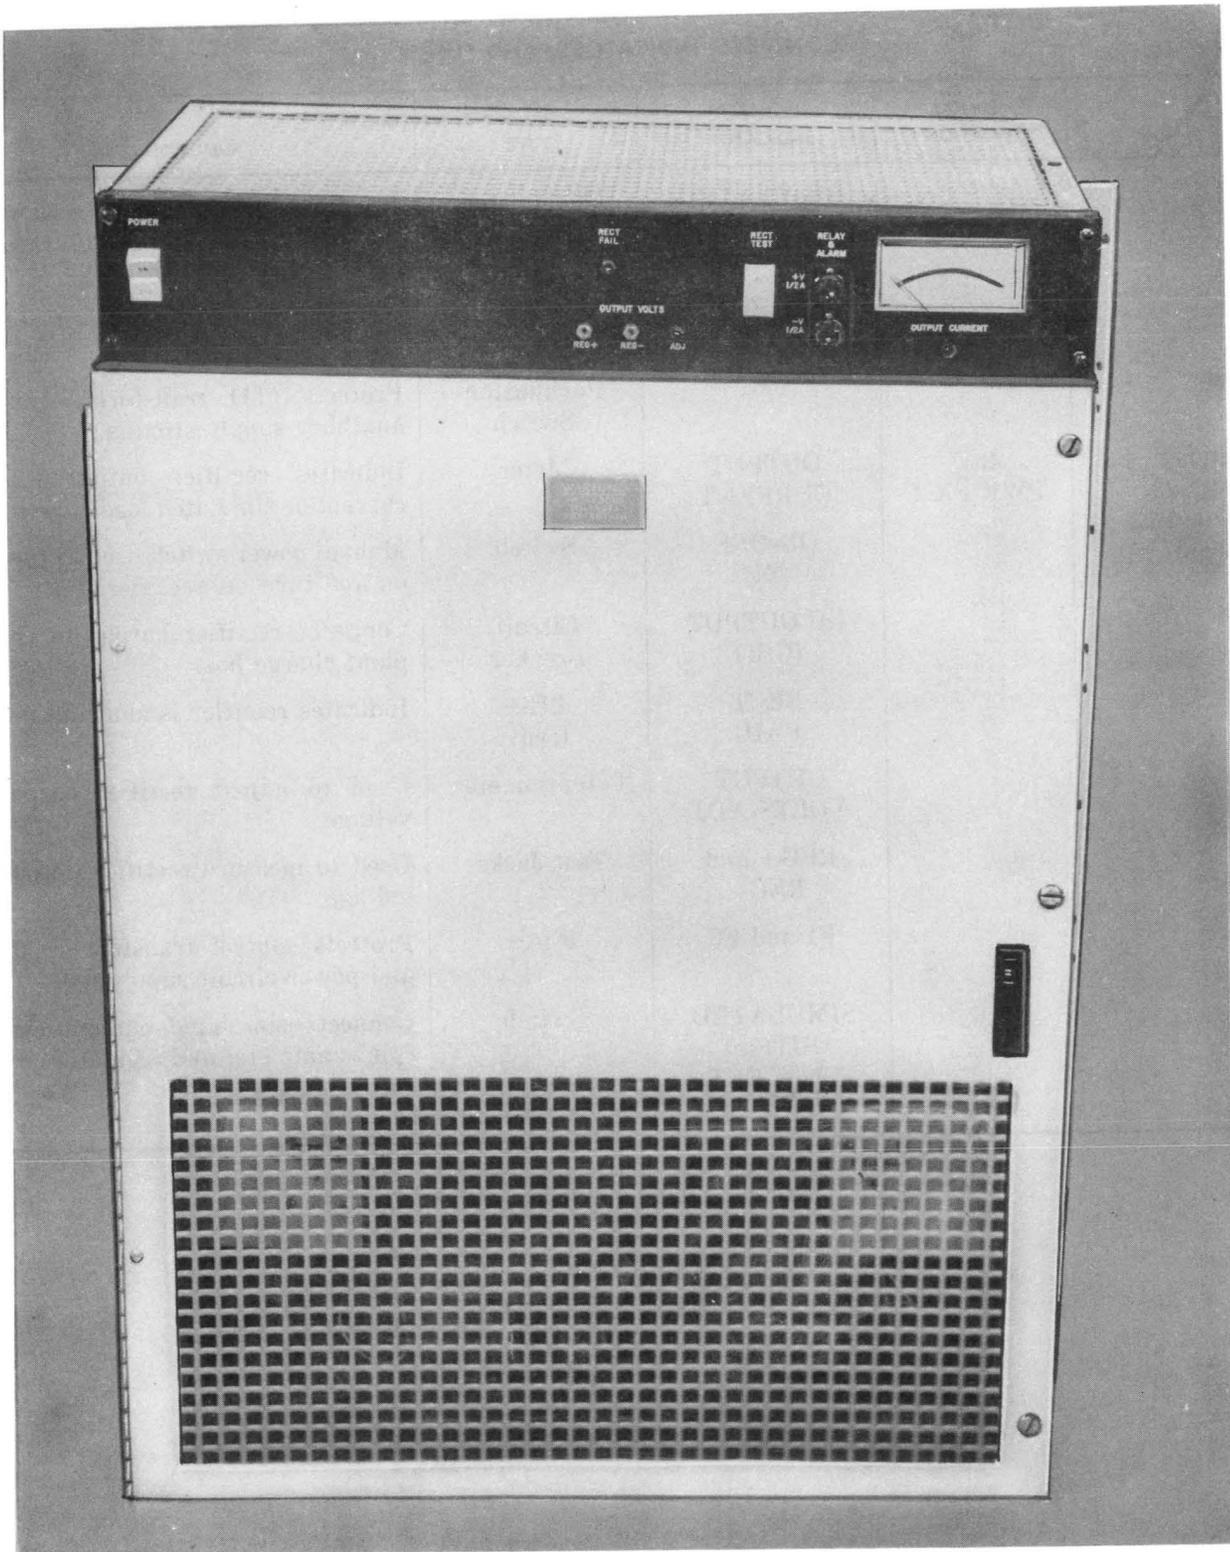

Fig. 3—J87437A, L1 and L3, or L2 and L3, Rectifier
**2.04** The rectifier control panel holds the ON-OFF and test switches, the output voltage adjust potentiometer, the internal sense lead fuses (+V and -V), and the output ammeter (Fig. 3 and 4). The panel is removable for access when service is required. See Table C for a complete list of controls, indicators, and fuses on the rectifier.